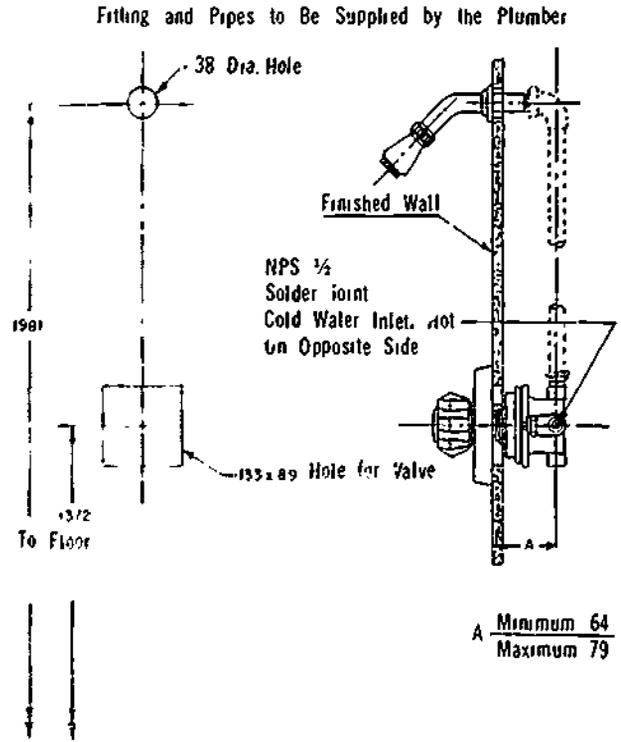

Figure 22-26. Pressure-Compensating Valve with Shower Fitting
- g) Described in Figure 22-26 are roughing-in requirements for a shower valve and head for other than a stall shower.